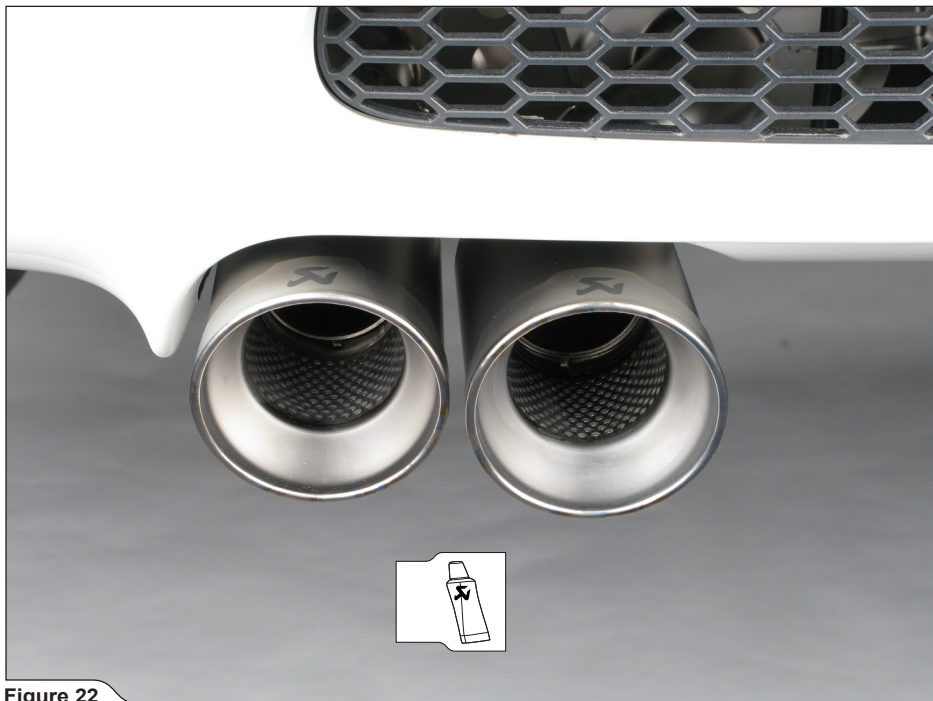

Figure 22
12. **For Slip-On and Evolution:** slide and center the Akrapovič tail-pipes (in respect to rear bumper) onto the mufflers' outlet pipes as shown on both sides of the vehicle (**Figure 22**).